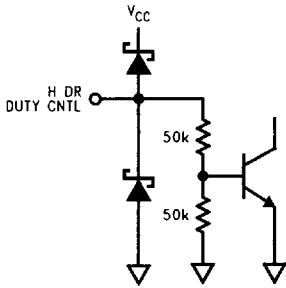

FIGURE 10
**Pin 14 - H DR DUTY CNTL:** A DC voltage applied to this pin sets the duty cycle of the horizontal drive output (pin 20), with a range of approximately 30%–70%. 2V sets the duty cycle to 50%. See *Figure 10* for the input schematic.